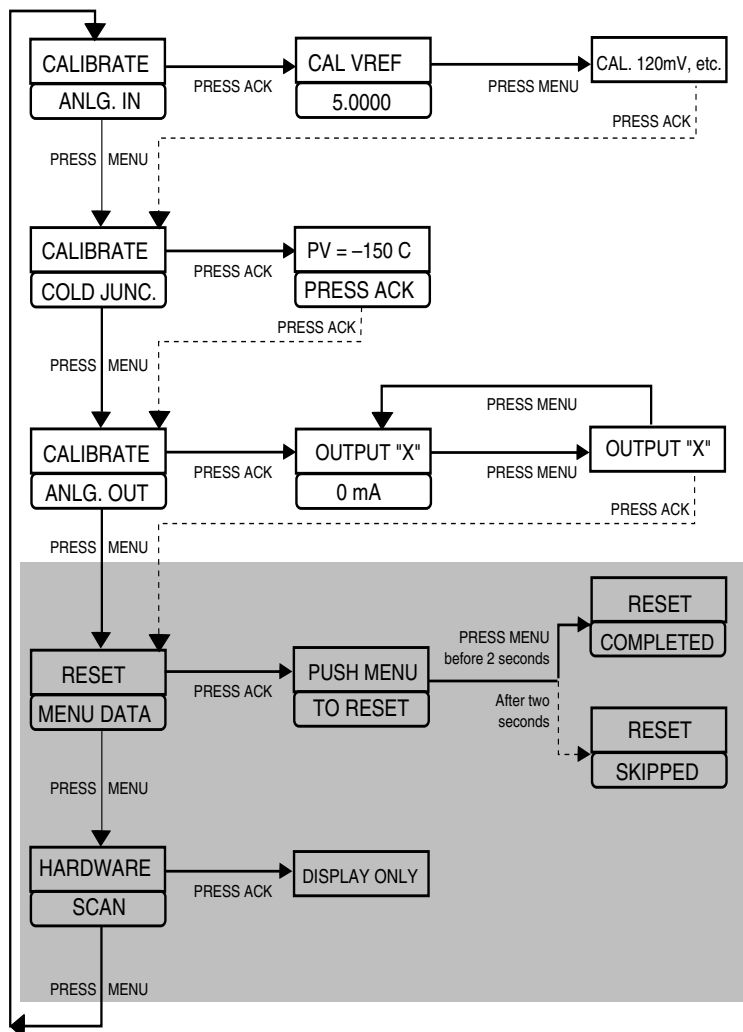

Figure D.1
Access these parts of the calibration menu as shown in Figure D.1.
display will read CAL. VREF, while the 3rd display will read a value close to 5.0000. Refer to the flowchart in Figure D.1 for guidance.
6. Press the **ACK** key for the first step in the **ANLG. IN** menu. The 2nd display will read CAL. VREF, while the 3rd display will read a value close to 5.0000. Refer to the flowchart in Figure D.1 for guidance.
6. Reinsert chassis into the case and apply power. The 2nd display should read CALIBRATE while the 3rd display reads ANLG. IN. Press **MENU** twice to get to the **ANLG. OUT** menu. Use the flowchart in Figure D.1 as a guide to this procedure.